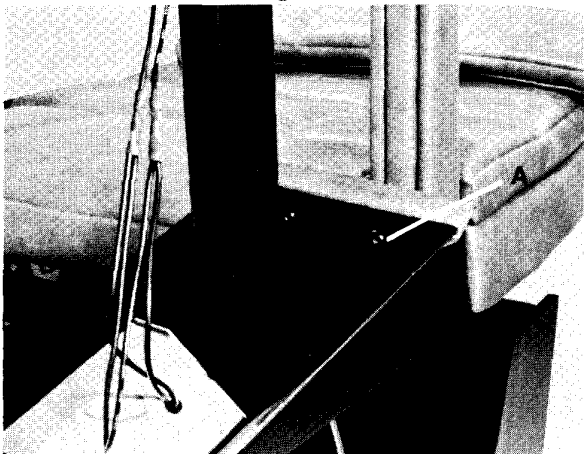

Fig. 11
- 3) Remove the upholstered leg support pad by removing (2) screws, Item A, Fig. 11.
- 4) Place new upholstered leg support pad in position, align holes, and install (2) #10-24x $\frac{3}{8}$ " screws, Item A, Fig. 11.